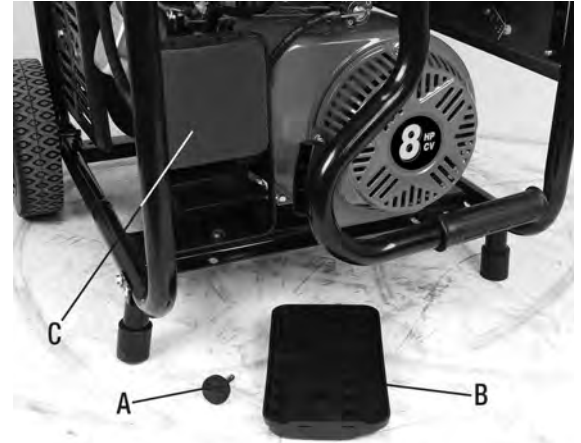

Figure 3
- 1) Loosen and remove the cover knob (A) Fig.3 and then remove the air cleaner cover (B).
- 2) Remove the air cleaner filter (C), wash filter in kerosene, squeeze kerosene out, soak filter in engine oil and squeeze engine oil out.